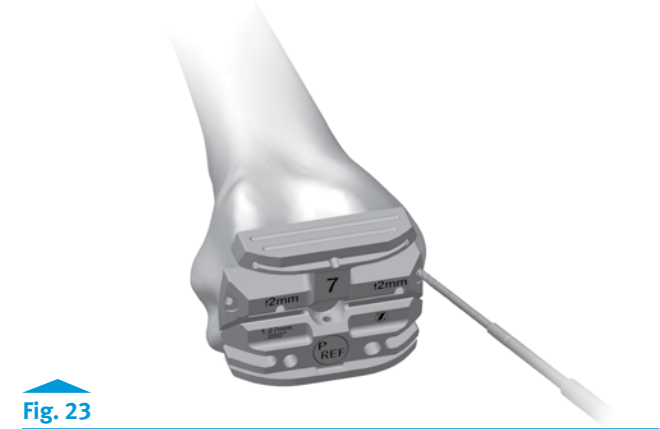
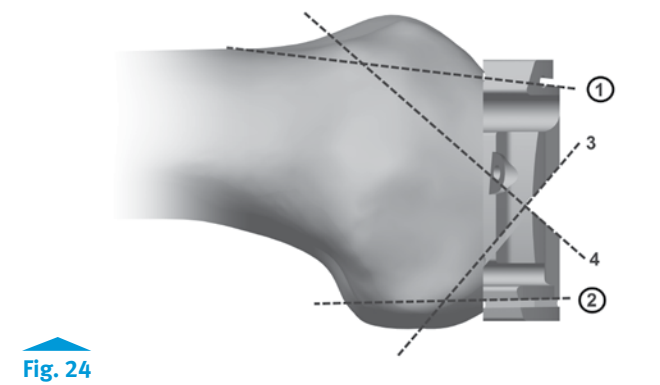

Fig. 23
Fig. 24
- After final placement of the desired Cut Guide, insert 3.2mm trocar-tipped pins or 3.2mm Headed Screws (see Screw Information section for examples) through the oblique holes in the Cut Guide (Fig. 23). Use a 1.27mm (.050 in.) thick oscillating saw blade to complete the anterior and posterior resections followed by the posterior chamfer and anterior chamfer resections through the cut slots. (Fig. 24) Upon completion of the cuts, use the Multi Pin Puller or Pin/Screw Inserter to remove the oblique pins/screws. Use the *Persona* Slaphammer to remove the cut guide from the femur (Fig. 22a & 22b).